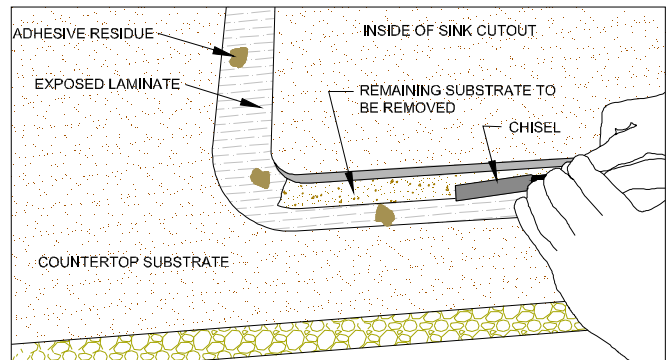

Figure 27B
- Keep chisel flat, beveled side up, so as not to damage laminate. (FIG. 27B)